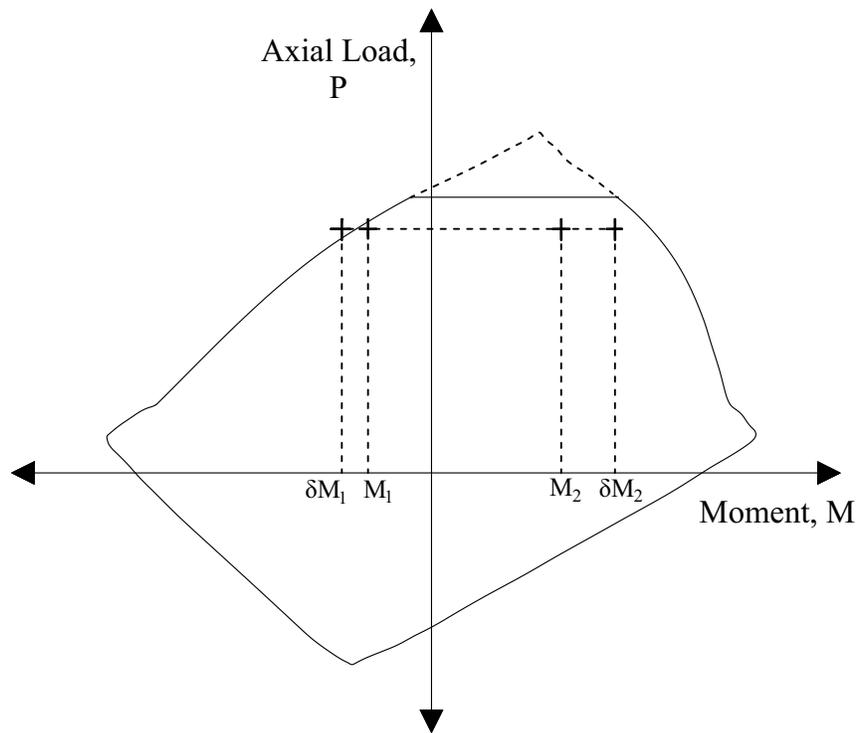

Figure 2-8 Case of unsymmetrical section bent in double curvature ( $M_1$  and  $M_2$  of different sign) with the smaller end moment,  $M_1$ , governing the design
While design codes define moment  $M_2$  as always positive and the sign of moment  $M_1$  depending on single or double curvature bending49, spColumn retains actual signs of moments  $M_1$  and  $M_2$ . This revision ensures proper comparison against negative and positive moment capacities of unsymmetrical sections (see Figure 2-8).
2. Moments at column ends,  $M_1$  and  $M_2$ , are calculated, where  $M_1$  is the moment with the smaller absolute value and  $M_2$  is the moment with the larger absolute value. For columns in nonsway frames, the end moments will be equal to the factored applied first order moment. For columns in sway frames, the end moments will be the moments  $M_1$  and  $M_2$  calculated in the procedure for moment magnification at ends of compression member. While design codes define moment  $M_2$  as always positive and the sign of moment  $M_1$  depending on single or double curvature bending58, spColumn retains actual signs of moments  $M_1$  and  $M_2$  to ensure proper comparison of resulting magnified moments against negative and positive moment capacities of unsymmetrical sections (see Figure 2-8). This revised interpretation does not affect results of the moment magnification along length procedure because the procedure relies on the  $M_1/M_2$  ratio. spColumn follows the code definition which assumes the ratio to be positive if the member is bent in single curvature and negative if bent in double curvature. If both moments are equal to zero, the program conservatively assumes the ratio of  $M_1/M_2=1.0$ .
11. The factored magnified moment along the length of a compression member,  $M_c$ , is the larger70 of  $\delta M_2$  and  $\delta M_{min}$ . The program also calculates moment  $M_c$  based on the smaller end moment,  $M_1$ , to account for scenario when  $M_1$  and  $M_2$  are of different sign (double curvature bending). For an unsymmetrical section, the smaller moment,  $M_1$ , may govern the design when the moment capacity on the negative side of the interaction diagram is smaller than the moment capacity on the positive side (see Figure 2-8).